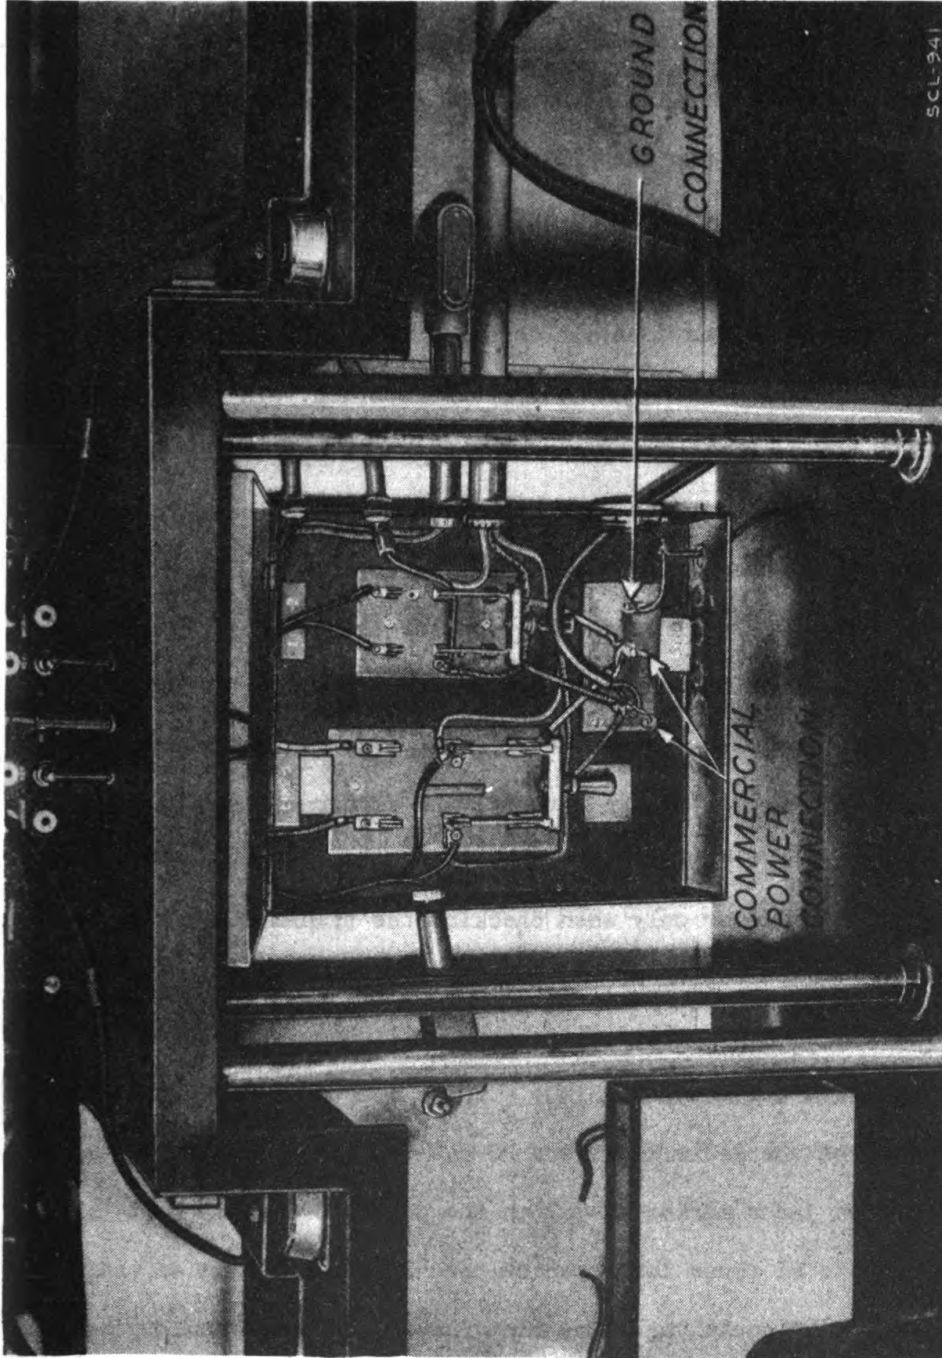

Figure 8. - Close-up of the power entrance box, located under the operating table of Trailer K-19-(*).
21. TRAILER K-19-(*). ANTENNA AND POWER REQUIREMENTS. - as stated in paragraph 20, the trailer will be towed by Truck K-19-(*) to the receiving location and uncoupled. Erect the three receiving antennas on the three Mast Bases MP-14 installed at the front end of the trailer. Drive the Stake GP-8 into the ground near the front of the trailer and connect the wire from the stake to the ground connection in the power entrance box located on the front wall of the trailer beneath Radio Receivers BC-342-(*). When thrown in the UP position, the double-pole, double-throw knife switches located in the power entrance box connect the electrical equipment in the trailer to the emergency generator power plugs on the front of the trailer. When thrown in the DOWN position, the electrical equipment in the trailer is connected to the commercial power line, which should be attached to the two connections in the lower left part of the entrance box. (See Fig. 8.) The heaters in the trailer are on separate circuits. When using emergency power, one heater operates from one Power Unit PE-75-(*), and the other heater operates from the remaining Power Unit PE-75-(*). Thus, both emergency power units must be operated to obtain the full heating possibilities of the trailer.